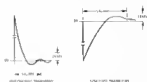

Figure 5-8. Transient Response Waveforms
5. Adjust ZSK potentiometer until a stable display is obtained on oscilloscope. Waveform should be within the tolerances shown in Figure 5-8 (output should remain to within 15 mV of original value in less than 50 microseconds).